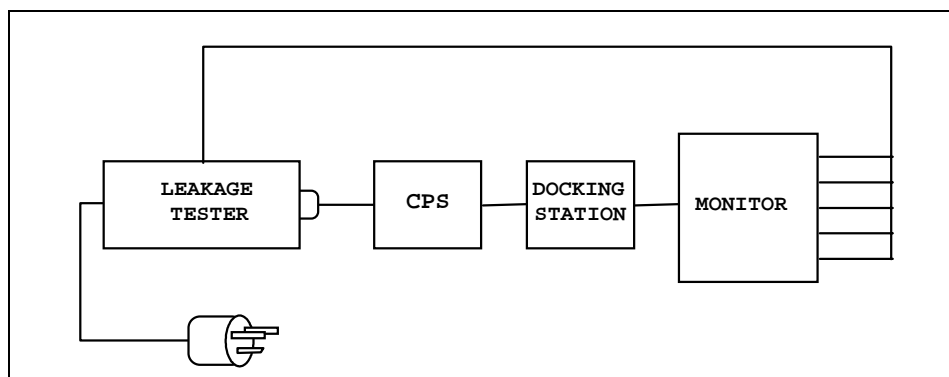

Fig. 4-3 Block Diagram: Earth Leakage Current
- 1) Perform leakage current tests with the SC9000 monitor on a docking station and with the CPS plugged into the leakage tester. See Figure 4-3.